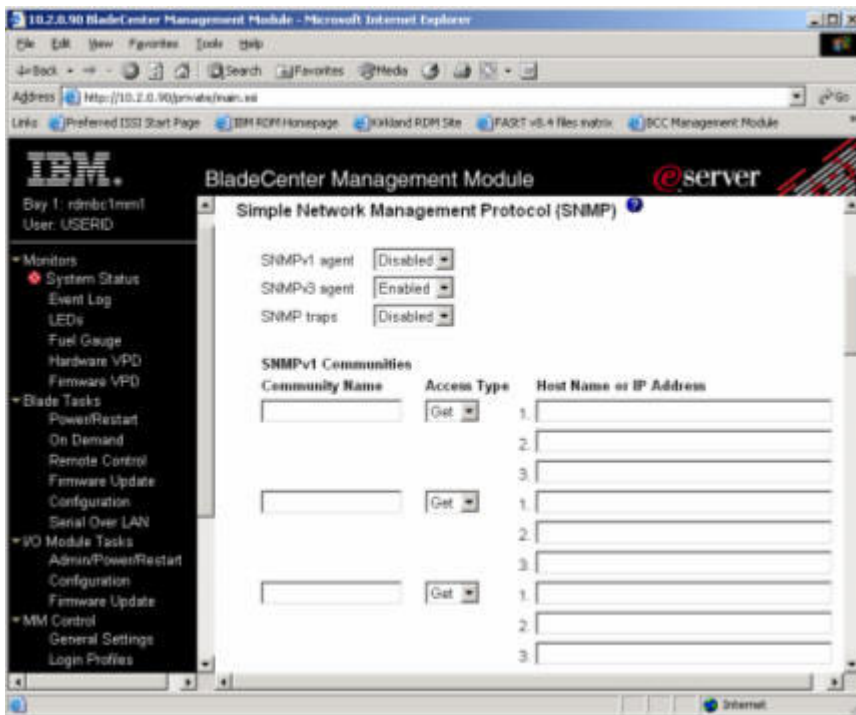

Figure 9. BladeCenter Management Module Network Protocols panel - SNMP section
4. Set the SNMPv3 agent to **Enabled** as indicated in Figure 9. Enablement of SNMPv1 and SNMP traps are not required by SMASH. You can enable each individually or both simultaneously depending on what you require for other management applications.